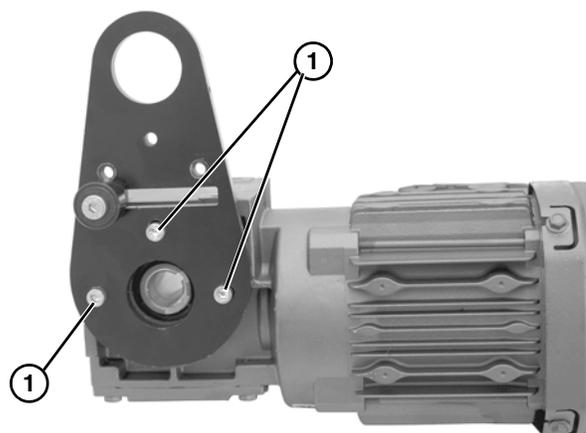

Figure 5
2. If required, change gearmotor position by removing screws (Figure 5, item 1). Rotate gearmotor to other position and replace screws. Tighten to 103 in-lb (12 Nm).